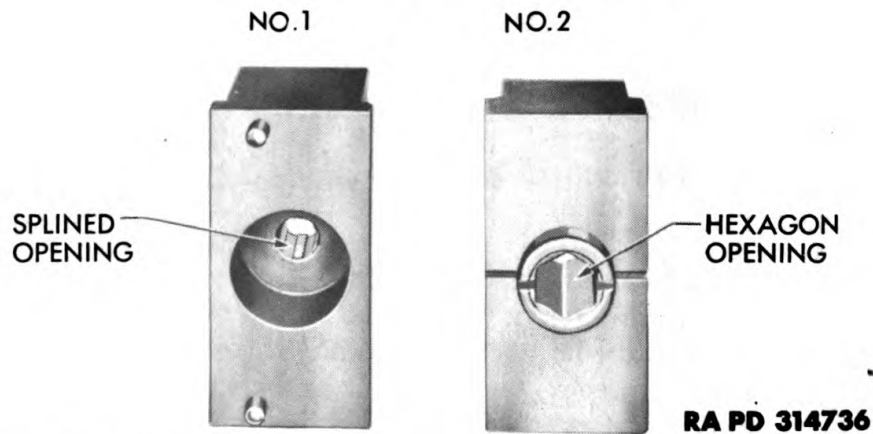
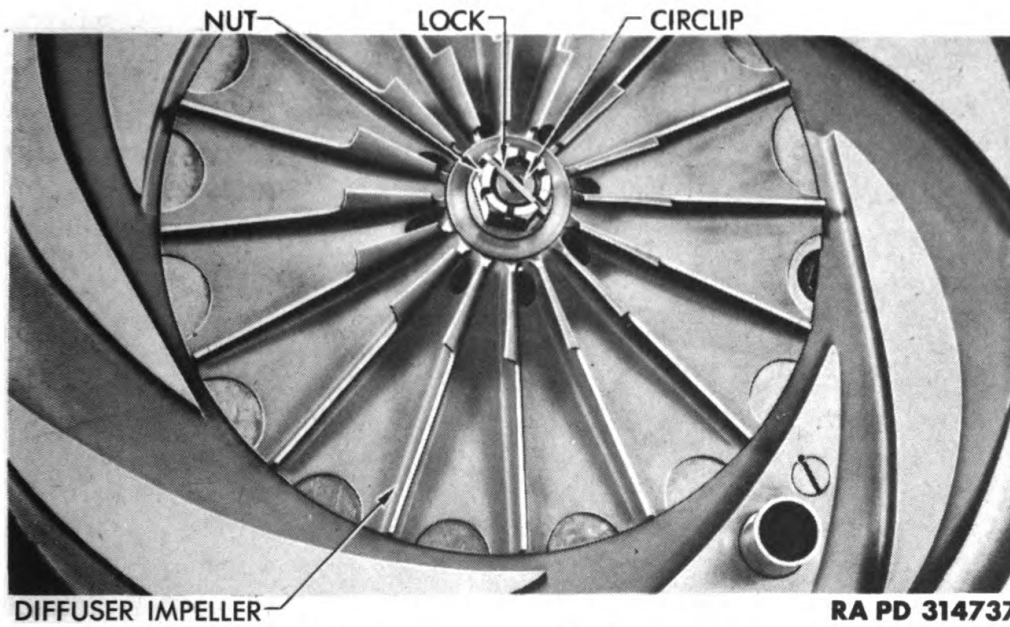

Figure 146 – Mounting Fixtures for Overhaul of Diffuser Section
Figure 147 – Impeller Shaft Nut and Lock
c. Remove Impeller. Place mounting fixture block No. 2 (fig. 146) in jaws of vise. Mount diffuser section in fixture with impeller up, and with nut on other end of impeller shaft seated properly in fixture hexagonal recess. Remove circlip and lock from nut on impeller shaft (fig. 147). Remove impeller retaining nut (fig. 148). Install puller on impeller. Pull impeller from shaft (fig. 149).
f. Disassemble Impeller Bearing Cage. Place fixture block No. 1 in vise with dowels pointing up (fig. 146). Mount cage assembly in